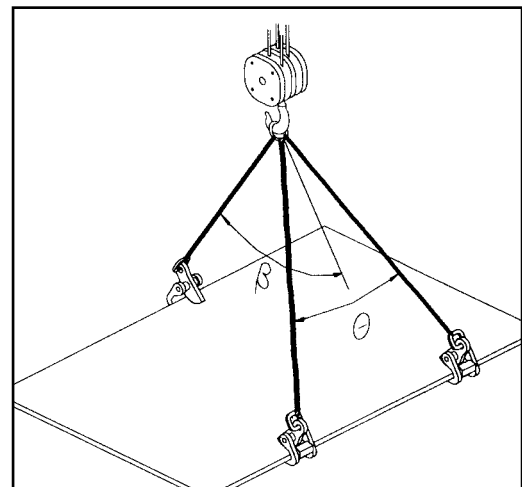
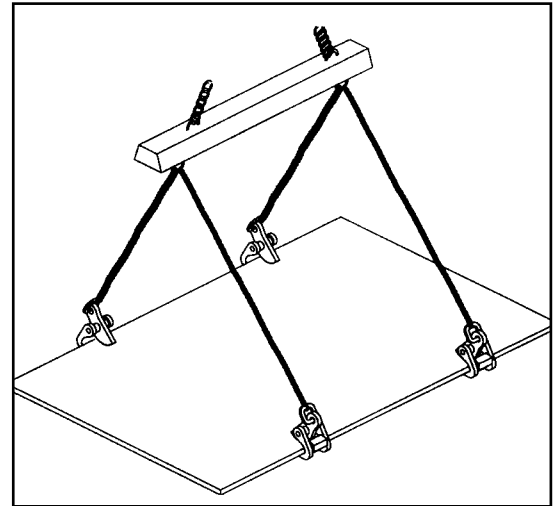

Figure 42
Figure 43
- B. The lifting angle (Fig. 42) between the sling legs on opposite sides of the load should be less or equal to 60 degrees ($\beta \leq 60^\circ$). The lifting angle between the sling legs on same side of the load should be less or equal to 20 degrees ($\theta \leq 20^\circ$).
- C. The Working Load Limit of any multiple sling assembly (Fig. 42) or spreader bar assembly (Fig. 43) must not be more than the combined Working Load Limit of two clamps, regardless of the number of clamps in the assembly.
Position the clamp(s) so the lifting force of the crane is directly in line with each clamp's lifting shackle, and the load is evenly distributed (Fig. 43).